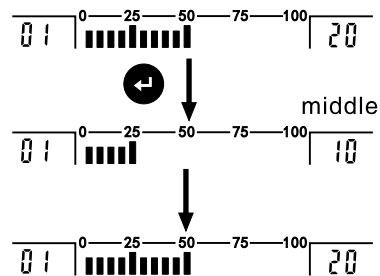

Figure 3–1–3 File upload process
- The sending process is dynamically displayed in the two sides of reading area and status area. (Figure 3–1–3)